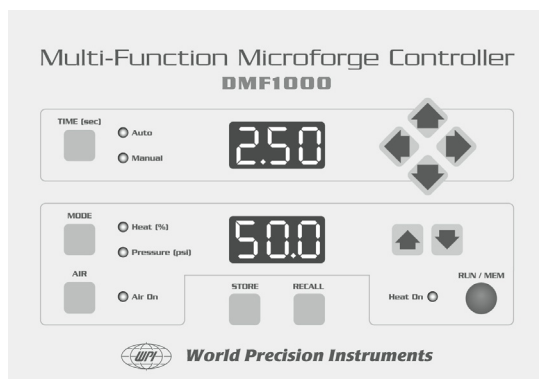

Fig. 5—Microforge Control Unit
The **DMF1000** Control Unit (Fig. 5) supplies power to the heating filament. The Control Unit's output power is electrically stable and reproducible. Fluctuations in the mains voltage input will not affect the output to the filament. This ensures the same polishing results day to day at the same settings. The unit senses which filament is used and automatically adjusts the heat output.
- The **air pressure display** can be adjusted from 0 to 60 PSI with the control knob found on the back of the unit (Fig. 5). The lower window displays the current pressure in PSI when the unit is set to Pressure mode.